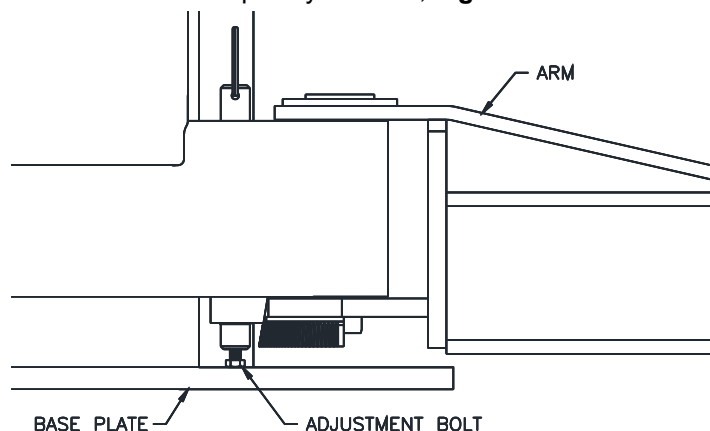

Fig. 21-Bolt Adjustment
- 61) Adjust the hex head bolt in the bottom of the arm restraint shaft so the arm is allowed to rotate freely when lift is completely lowered, **Fig. 21**.